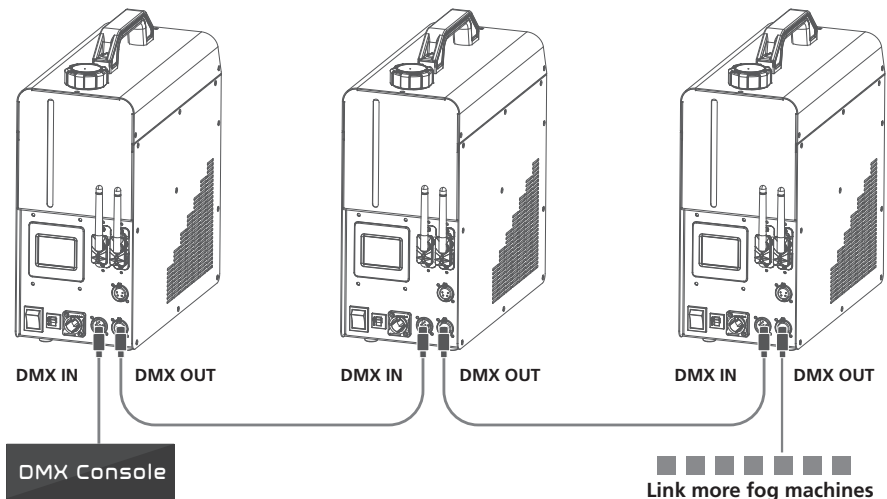

Figure 2 --> DMX CHART
4. Down. Refer to DMX channel chart in Figure 2 make related settings. Now start operating ATMOS HAZE 700i with DMX console.